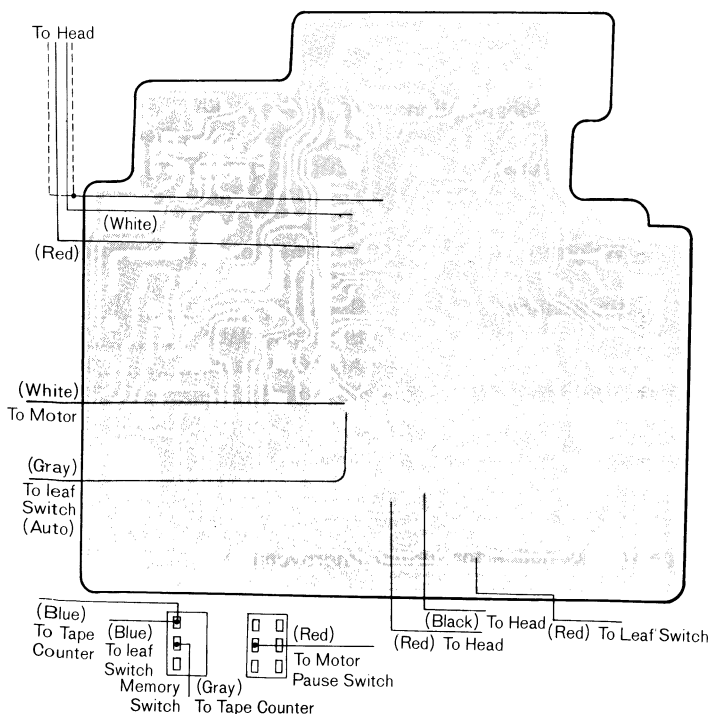

Fig. 4
4. To remove tape deck completely, unsolder lead wires, as illustrated in fig. 4.